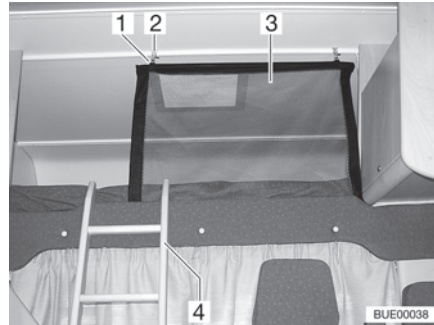
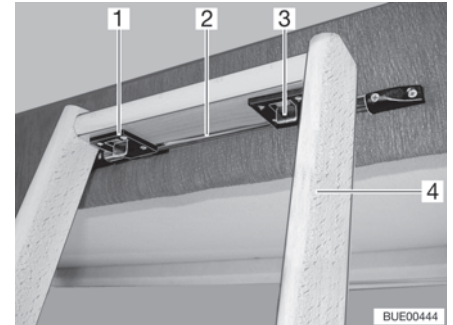

Fig. 100 Overcab bed
Fig. 101 Access ladder, catch
Always use the access ladder (Fig. 100,4 and Fig. 101,4) provided as standard to access the overcab bed.
- Hang the ladder with the two hooks (Fig. 101,1) on the rail (Fig. 101,2) of the alcove flap.
- Push the two catches (Fig. 101,3) forward.
The safety net (Fig. 100,3) is stored as standard between the mattress and slatted frame. Only use the safety net if persons are already in the alcove.
- Attach the holder (Fig. 100,1) to the eyes on the ceiling (Fig. 100,2).